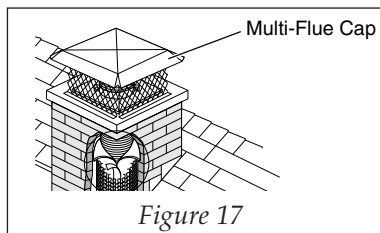

Figure 17
G.) Some Gelco Knock-Down Tops or Chimney Protector Caps may be used to terminate a HomeSaver Relining Installation, see Figure 17, page 23. A storm collar is not required but may be used with these caps. Allow a maximum of 3" of HomeSaver Flex to extend past the top plate. Make sure the
combined height of liner and tile extend into the cap no more than 4" for the Chimney Protector with 10" high mesh and no more than 6" for the Knock-Down Tops and Chimney Protectors with 12" high mesh. This ensures adequate clearance for the liner (see Figure 17).